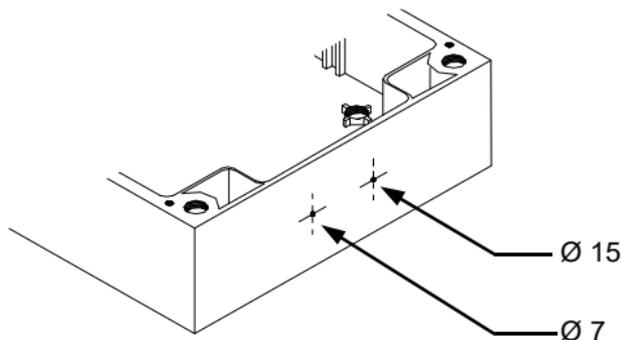

FIG. 1.0
- Mark the centre of the holes to be drilled on the front of the bottom enclosure. (**Fig. 1.0**)